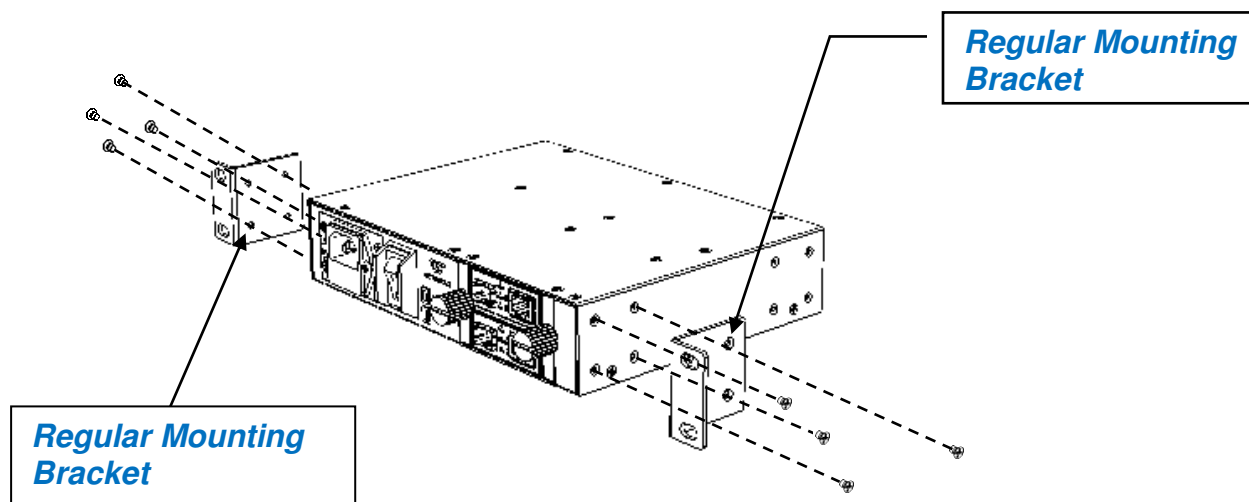

Figure 2-6. Chassis Mounting in 10-inch Rack
- 1.1. Attach the supplied regular mounting bracket to one side of the chassis that you would like to install in the rack. (See Figure 2-6)
- 1.2. Attach the supplied regular mounting bracket to the other side of the chassis. (See Figure 2-6)
**Step 2.** Insert the screws provided in the rack-mount kit through each bracket and into the bracket mounting holes in the chassis. (See Figure 2-6)